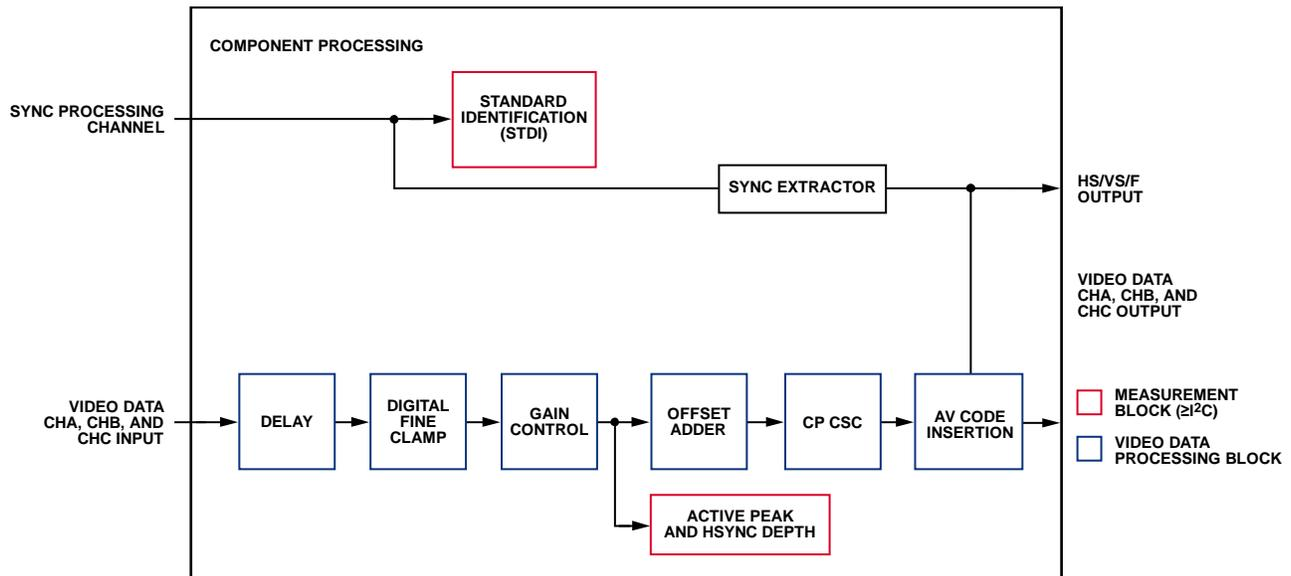

Figure 40. Component Processor Block Diagram
A simplified block diagram of the the component processor (CP) on the ADV7619 is shown in Figure 40. Data is supplied to the CP from the data preprocessor (DPP). The CP circuitry is activated under the control of **PRIM\_MODE[3:0]** and **VID\_STD[5:0]**.